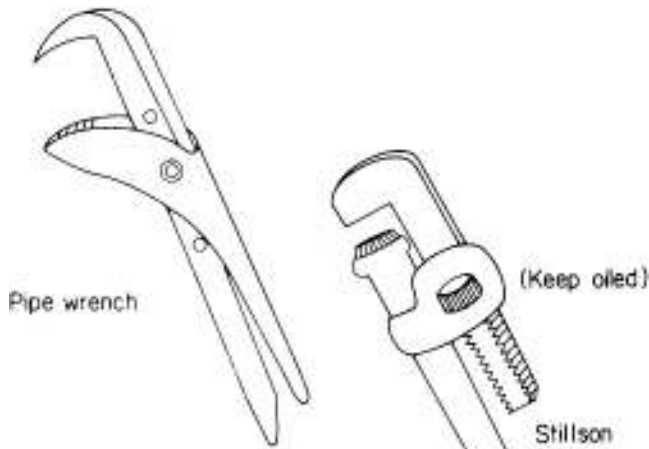

Fig. 14.43
*Adjustable pipe wrench and Stillson* (Fig. 14.43). Used for tightening and untightening conduit.